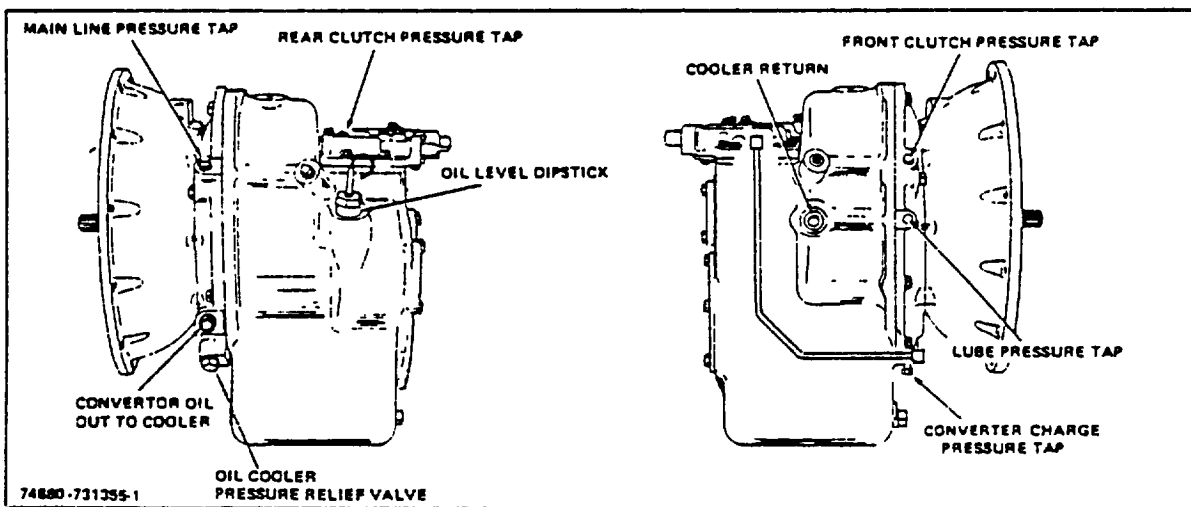

Figure 2-1. Pressure Tap Locations
3. Mount a pressure gauge (0 300 p.s.i.) in the appropriate pressure tap port for each check. (See Figure 2-1).